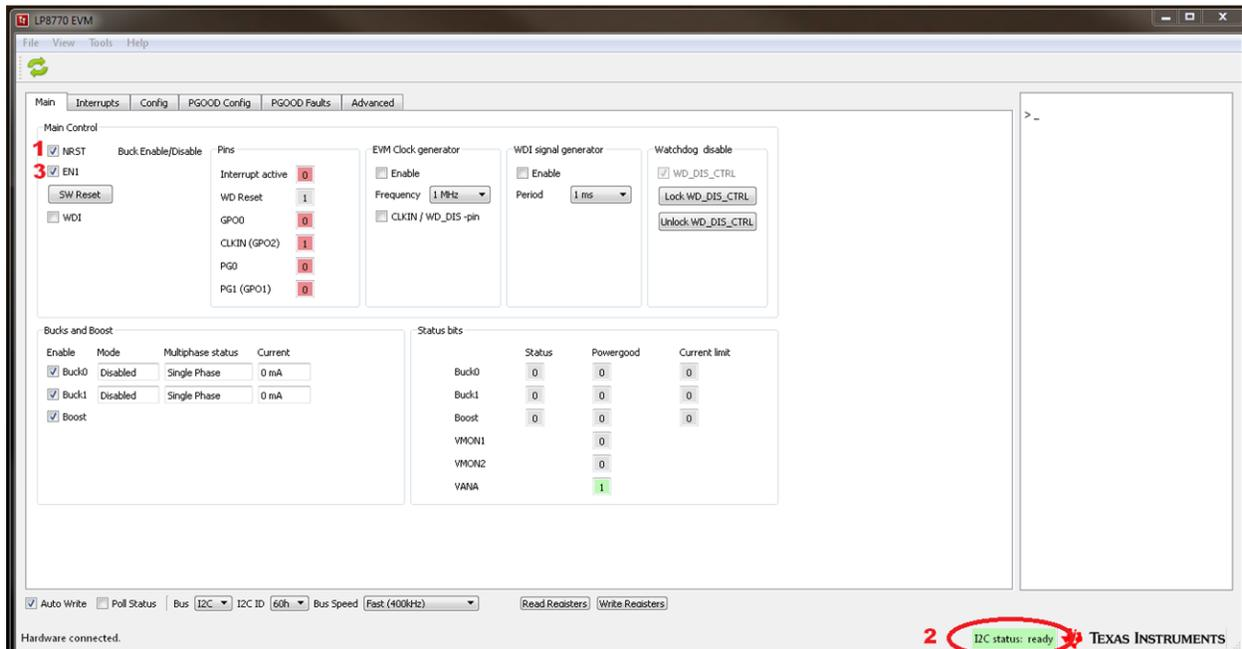

Figure 7. Evaluation Software GUI Showing Steps Needed to Power Up the LP8770Q1EVM
1. Click on NRST check box. See marking 1 in Figure 7. User should see “I2C Status: ready” message on the green background next to the Read Registers button. See also marking 2 in Figure 7.
2. Click on EN1 button (marking 3 in Figure 7).